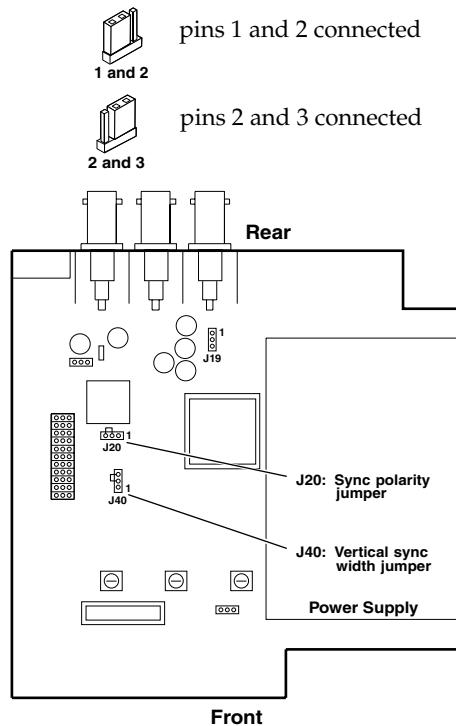

Figure 7 — Circuit board jumper locations
3. Note the positions of jumpers J20 and J40 before changing jumper settings (figure 7). There are two possible setting combinations for 3-pin jumpers: